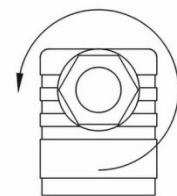

Fig. 9
- ✚ Loosen the screwed cable gland ⑤ M16x1,5 (→ Fig. 9).